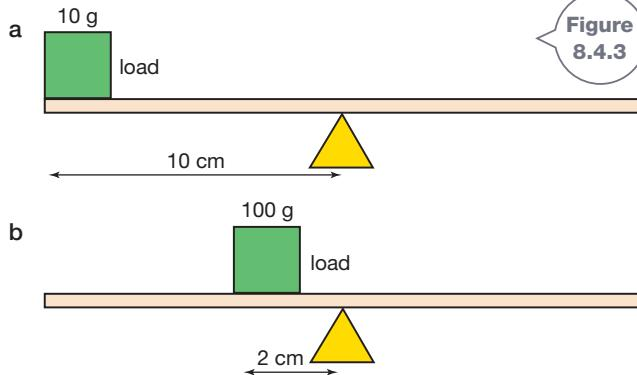

Figure 8.4.3
- 10 Calculate where a 25-gram mass should be positioned on each see-saw shown in Figure 8.4.3 so that they will balance.